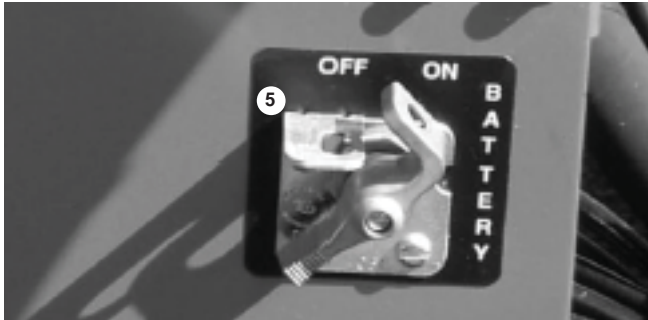

Figure 9.4
- Check to be sure the battery switch (5) is on (see figure 9.4).